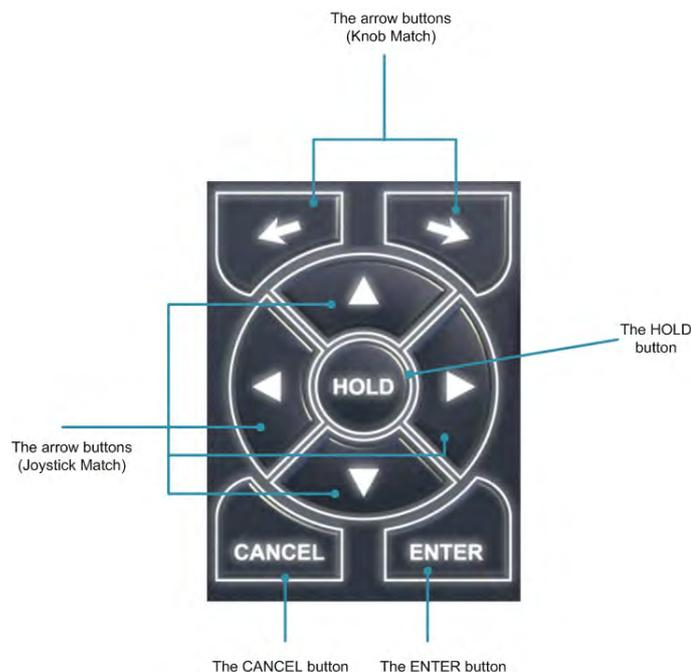

Figure 2.9: The Control Elements Group
- with the Joystick match pushbuttons (see Figure 2.9): press and hold the pushbutton or press the pushbutton several times until the required value is set. Then press the Enter pushbutton.
The group is located at the right of the LCD screen and contains the following control elements (see Figure 2.9:
Arrow buttons (see Figure 2.9) are meant for